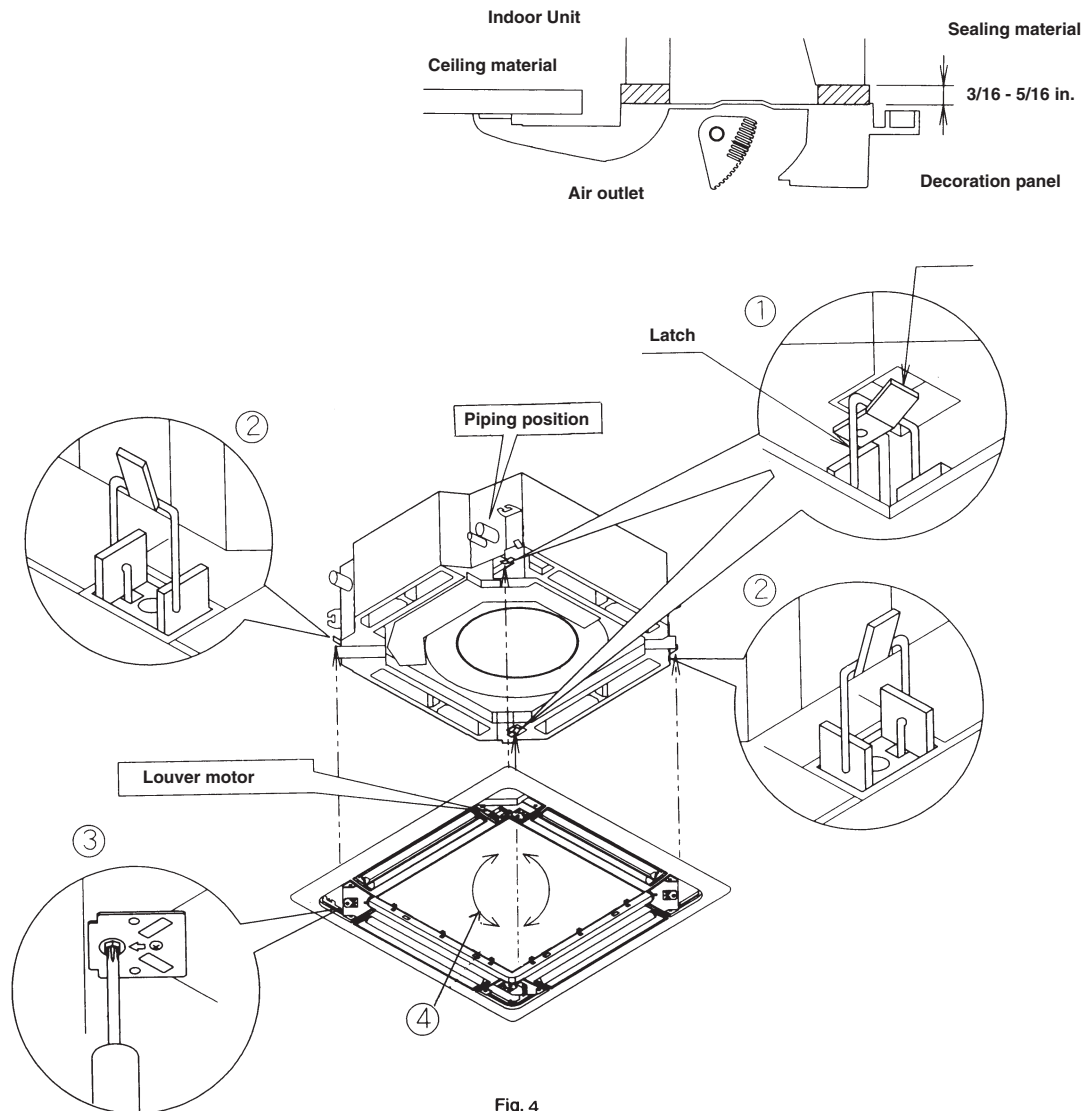

Fig. 4
- (1) Set the decoration panel to the indoor unit body by matching the position of the louver motor of the decoration panel to the piping position of the indoor unit, as shown in Figure 4.
- (2) Install the decoration panel:
- ① Temporarily install the decoration panel to the indoor unit by hanging the latch on the opposite side of the louver motor of the decoration panel to the hook of the indoor unit body. (2 positions)
- ② Temporarily hang the remaining 2 latches to the hooks on the sides of the indoor unit.
- ③ Screw all 4 hex head screws (located directly beneath the latches) in approximately 3/16". Panel will rise.
- ④ Adjust the decoration panel by turning it to the arrowed direction in Fig. 4 so that the ceiling opening is completely covered.
- ⑤ Tighten the screws until the thickness of the sealing material between the decoration panel and the indoor unit body reduces to 3/16-5/16 inches.